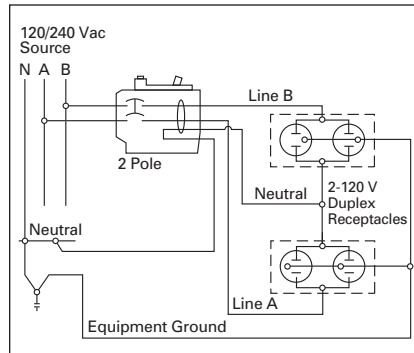

Figure 3-17. 1-Pole Shared Neutral with Multi-Duplex Receptacle Application
- ② Independent trip refers to 2-pole multi-wire, home run or shared neutral circuits (see **Figure 3-17** and **Figure 3-19**).